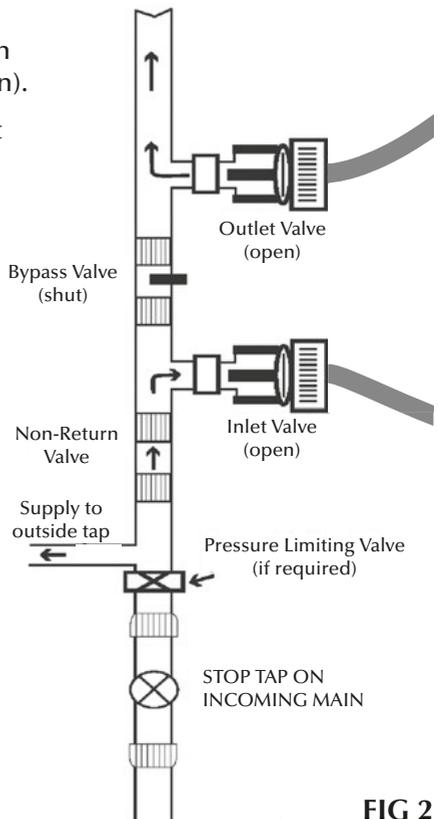

FIG 2
- Fig 2 shows the valves in the Service position (Bypass is closed and Inlet & Outlet are open).
- Upon your return, move valves back to the Service position (as Fig 2 right).